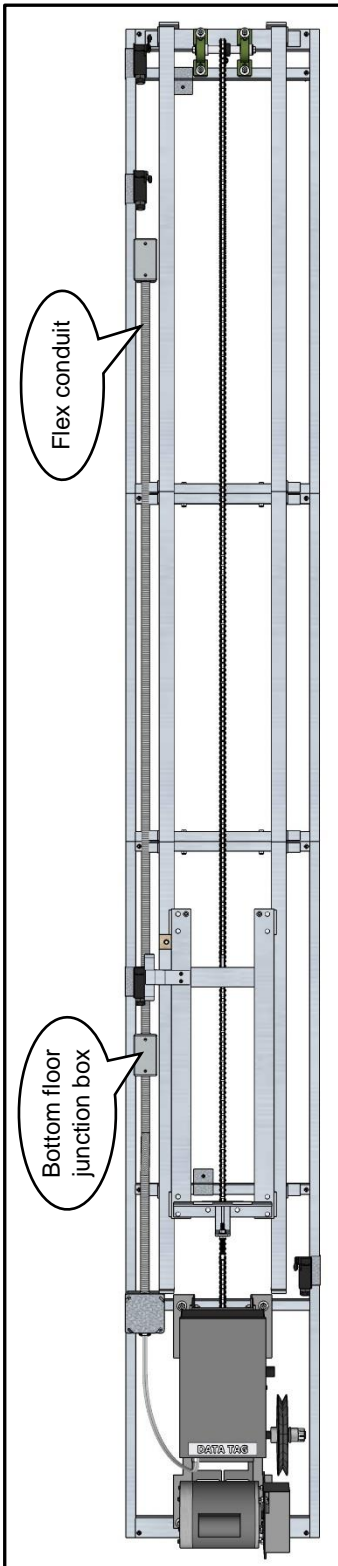

Figure 10
- 1 Lower flex conduit from top floor and connect to junction box at bottom floor. (see Figures 10 & 11)